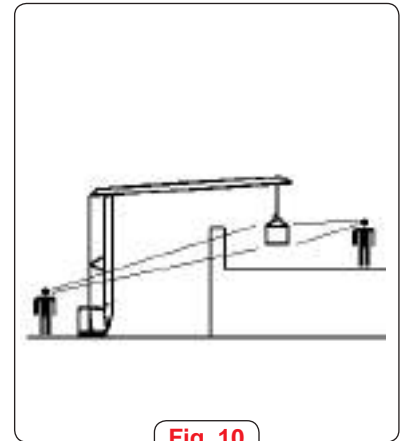

Fig. 10
18. Signals given by the signal man must be based on specific systems (national standards, if any, shall be used) (Fig 10)